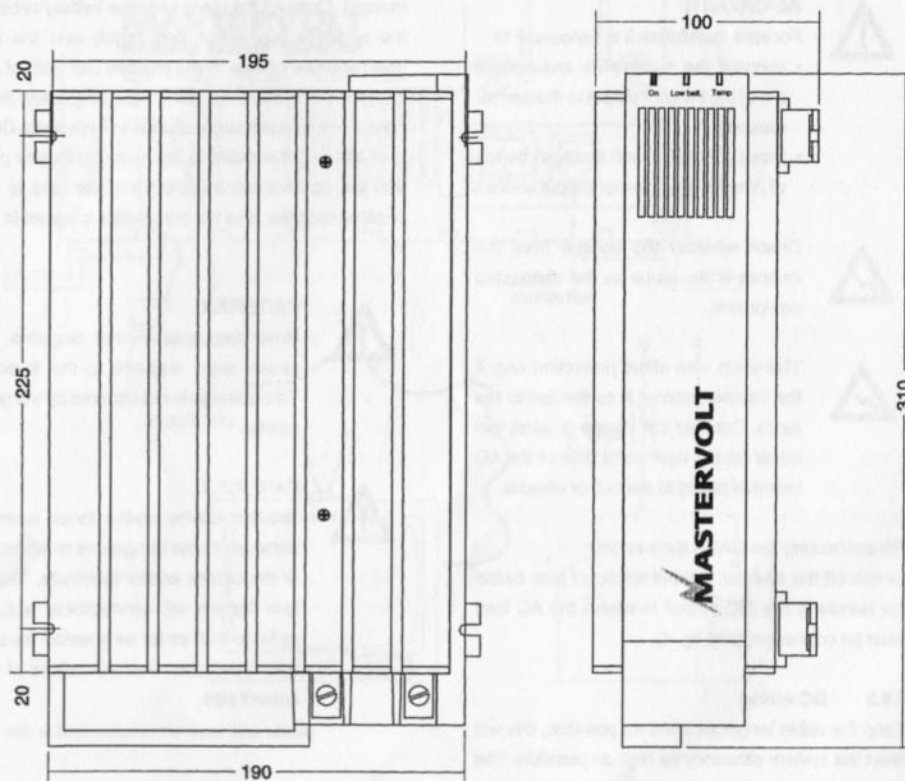

Fig. 3: Dimensions of the Mass Sine 12/500.
Dimensions (h x w x d)	310 x 190 x 100 mm (see fig. 3)
- 1 Determine the mounting points (see fig. 3).